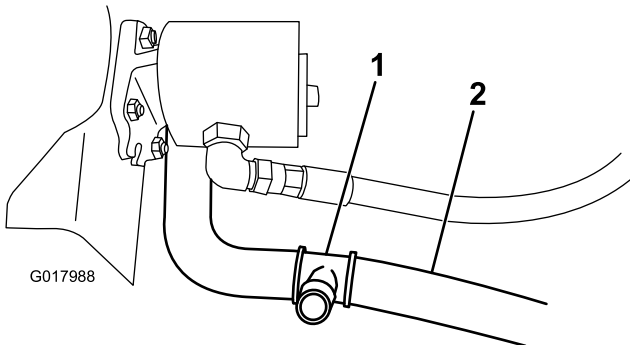

Figure 11
- Cut the lower radiator hose about 3 1/2 inches from the centerline of the hose at the 90 degree bend (Figure 11).
- Connect the tee fitting to each newly cut end of the lower radiator hose with the 2 wide hose clamps (Figure 11).